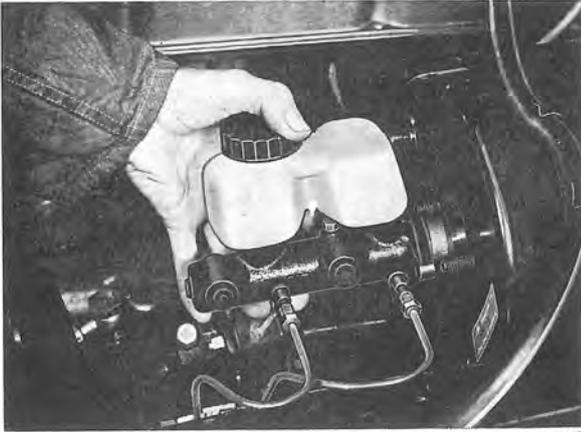

Fig. 5-44. Removing the master cylinder
3. Remove the two attaching nuts for the master cylinder and lift the cylinder forwards, see Fig. 5-44. Empty out the brake fluid.